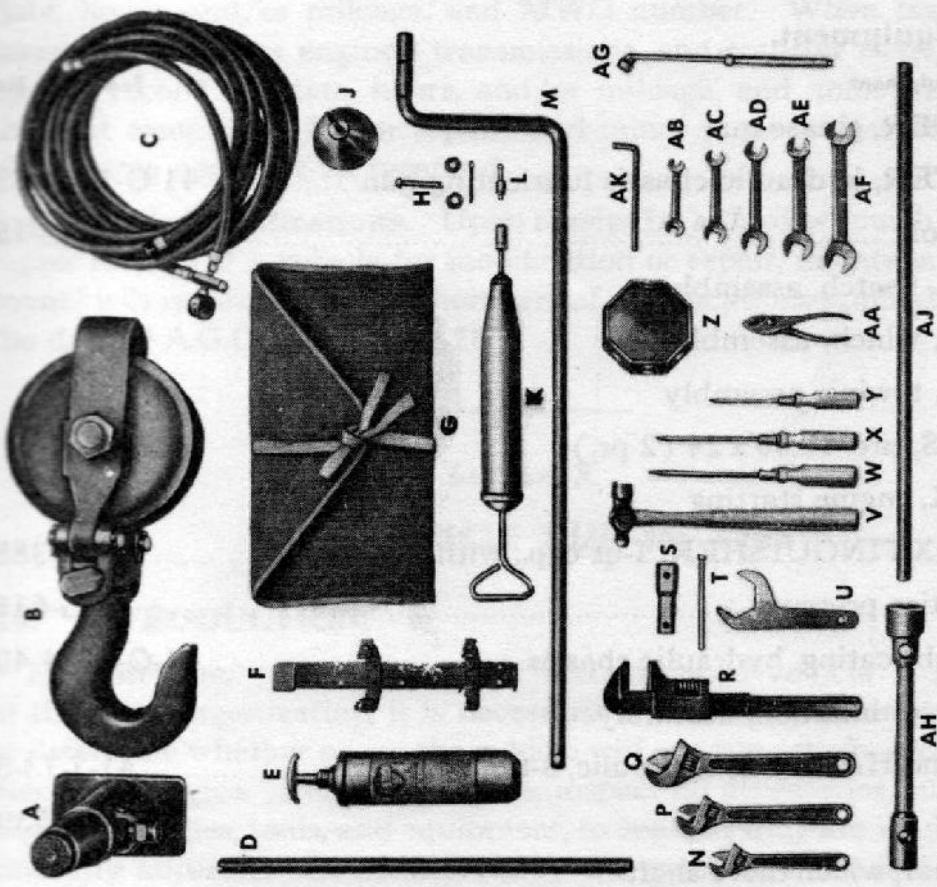

Figure 17 — Tools and Equipment
22. VEHICLE TOOLS AND EQUIPMENT (figs. 17 and 18).